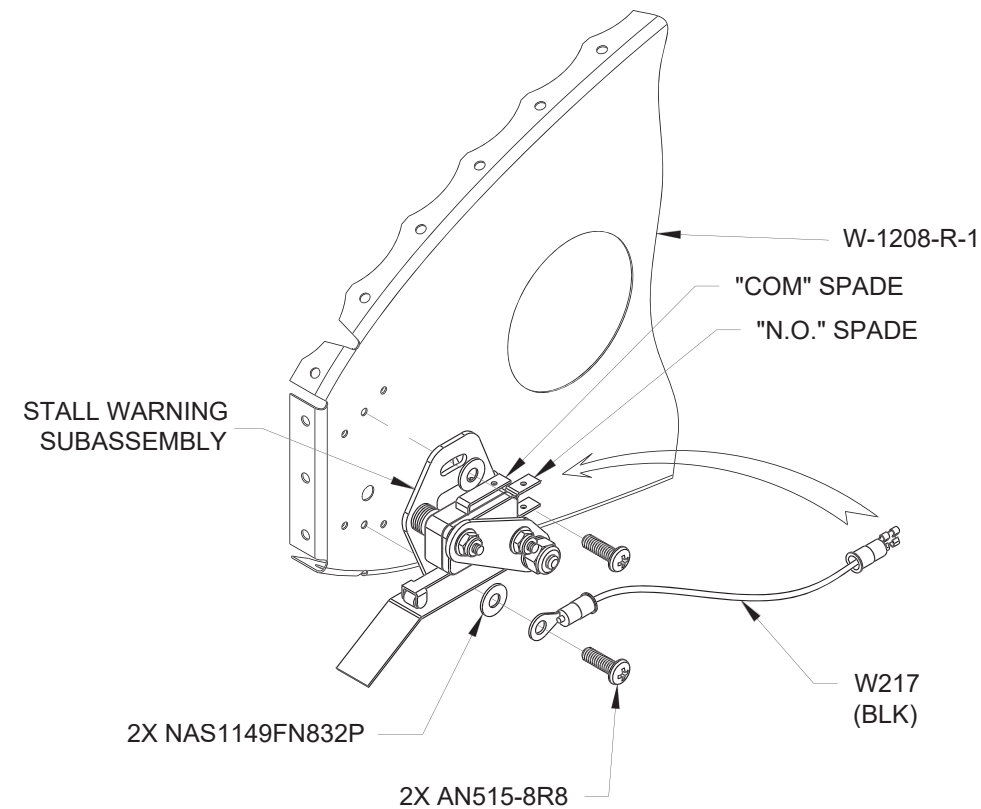

FIGURE 2: INSTALLING THE STALL WARNING SUBASSEMBLY
Step 5: Locate the W217 (BLK) stall warn ground wire (included with the WH-00140 Wing Harness Grounds). See Figure 2.
Step 6: Install the Stall Warning Subassembly on the W-1208-R-1 as shown in Figure 2.
The lower screw passes through the Ring Terminal on the W217 (BLK) stall warn ground wire as shown in Figure 2.
Step 7: Connect the Female Spade Connector of the W217 (BLK) to the normally open "N.O." spade on the ES E22-50K. See Figure 2.